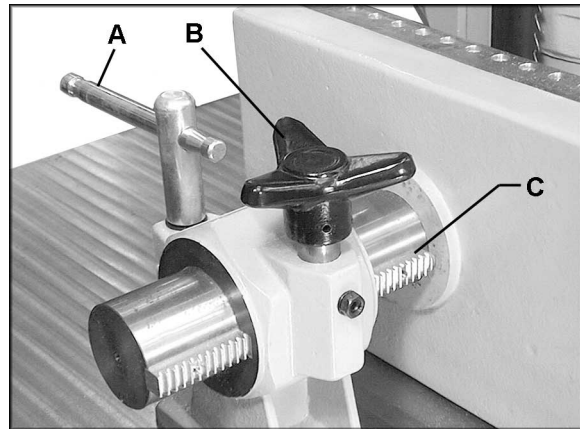

Figure 10
To move the fence toward or away from the saw blade, loosen the lock handle (A, Figure 10) and rotate the knob (B, Figure 10).
A millimeter scale is inscribed on the edge of the rack (C, Figure 10).
After adjustment, re-tighten lock handle (A, Figure 10).
3. Set the Fence so that the dimension on the scale (C, Figure 10) matches the desired thickness of the workpiece. Secure the Fence in position with the locking handle.